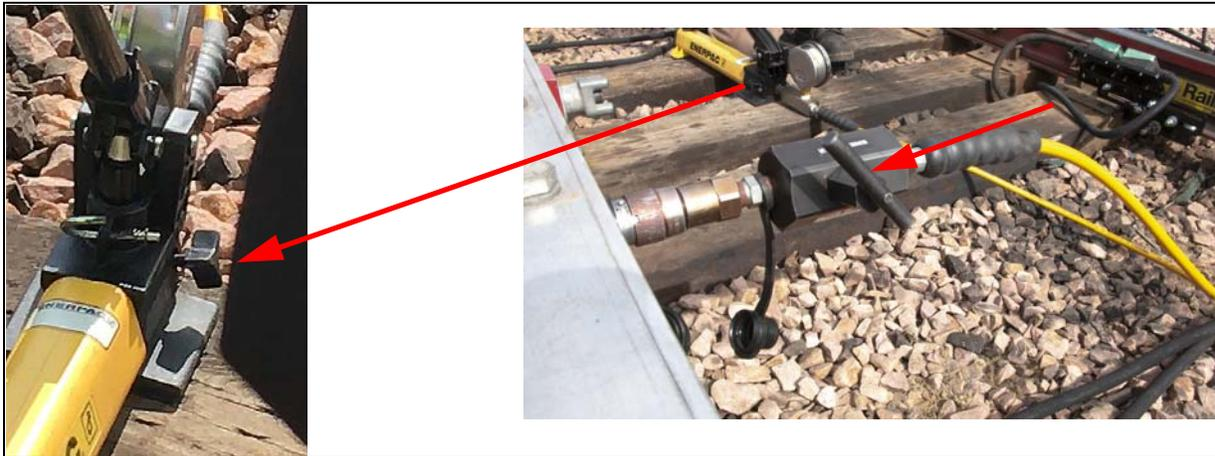

Figure 4. Relief Valve Locations on the Hydraulic Pump and Calibrator
6. Pump until the weight reaches 30,000 lb. Turn the release valve on the pump (left hand graphic in Figure 4) counterclockwise to open the valve to release pressure until the weight returns to zero.